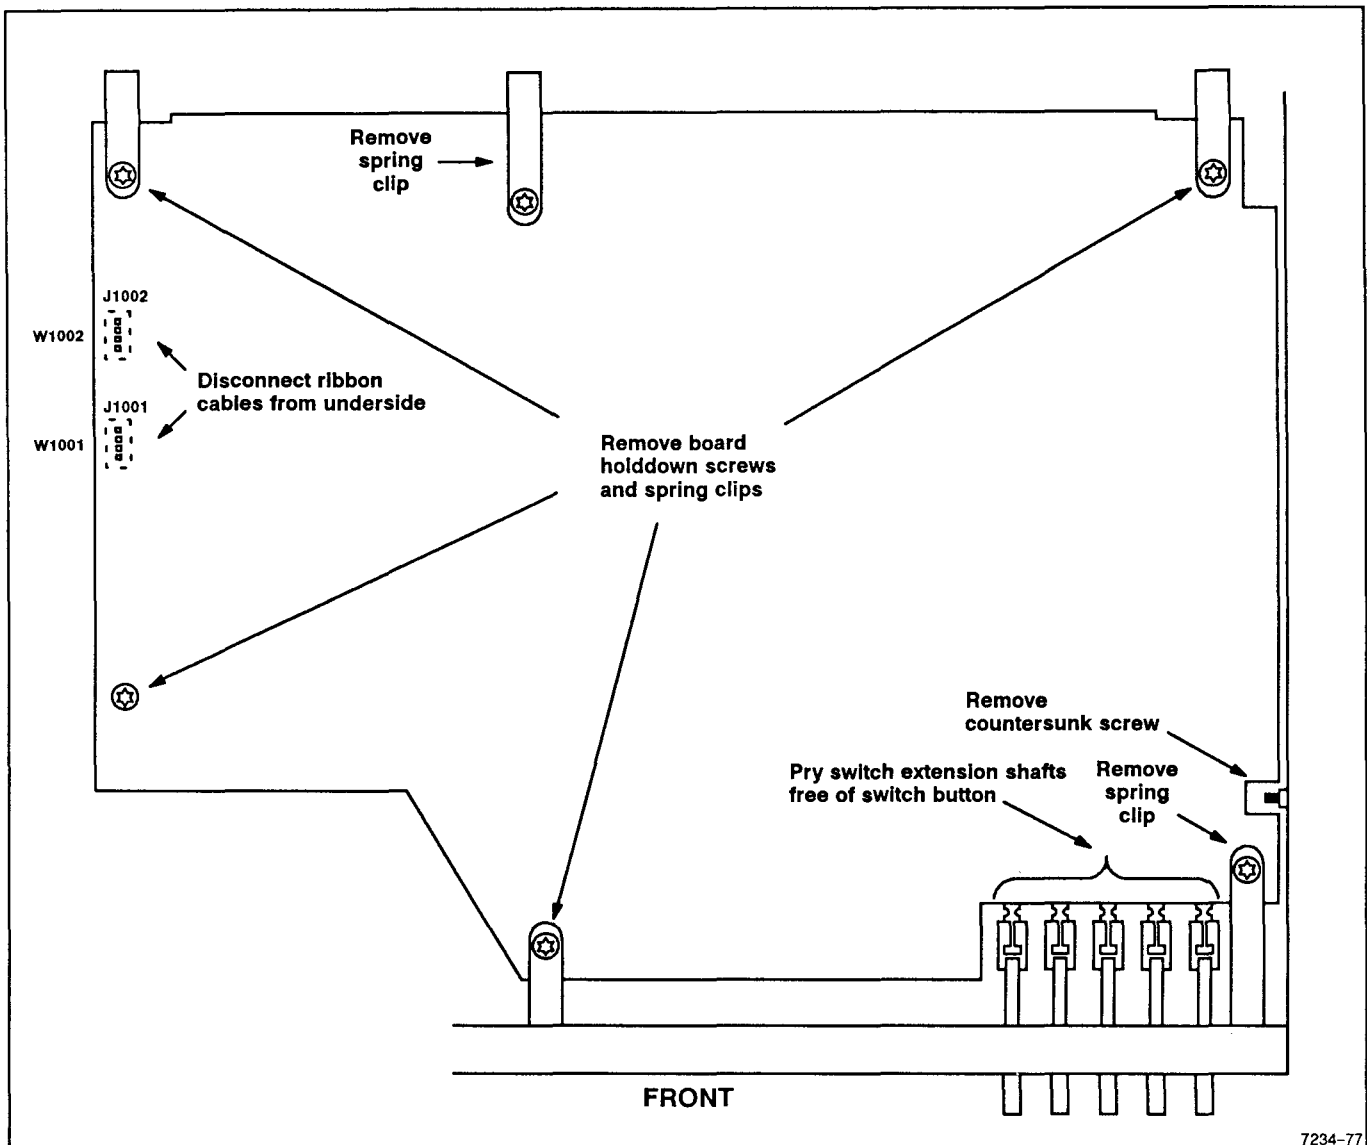

Figure 6-3. Storage board removal.
3. Remove five screws holding the storage board assembly to the chassis, noting the position and locations of the ground springs. See Figure 6-3.